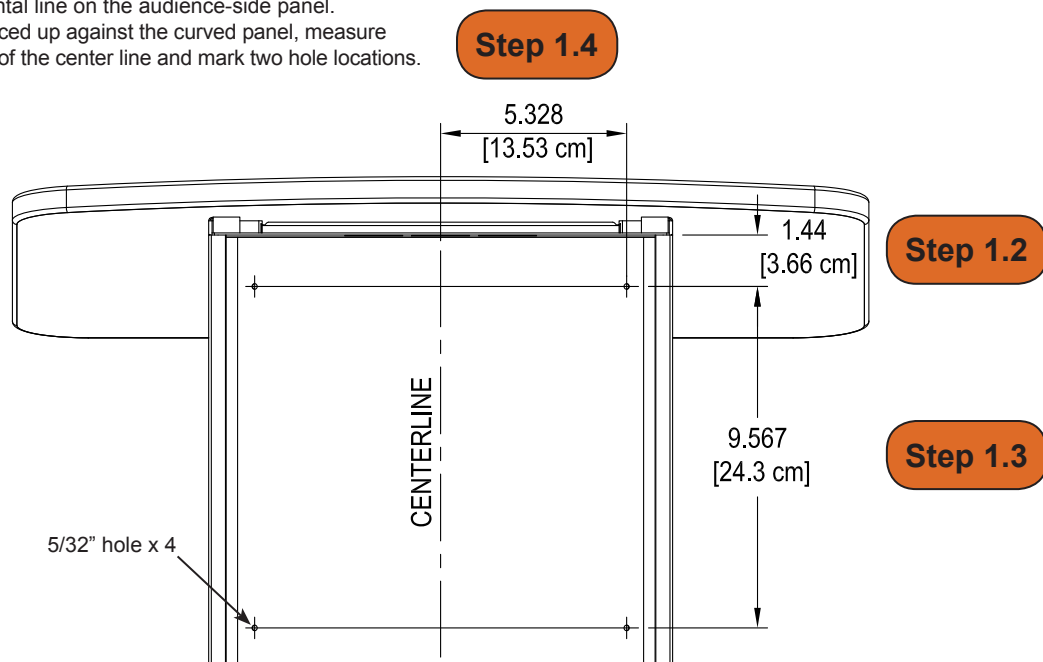

Figure 1
- Using a pencil and measuring tape, measure out and mark a centered vertical line on the audience-side panel. **Figure 1.** Use two points (one on top, one on bottom) to establish the line—this will provide the most accuracy.
- Place masking tape on the laminate at the (4) hole locations.
- Carefully drill through the audience-side panel at the (4) hole locations using a 5/32" drill bit. **Figure 1.**